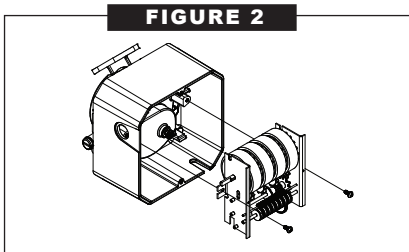

FIGURE 2
3. Remove two screws to release the counter assembly. (Figure 2)